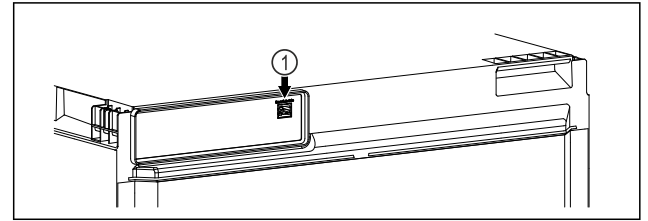

Fig. 27
- ❑ SmartModule Fig. 27 (1) has been inserted.